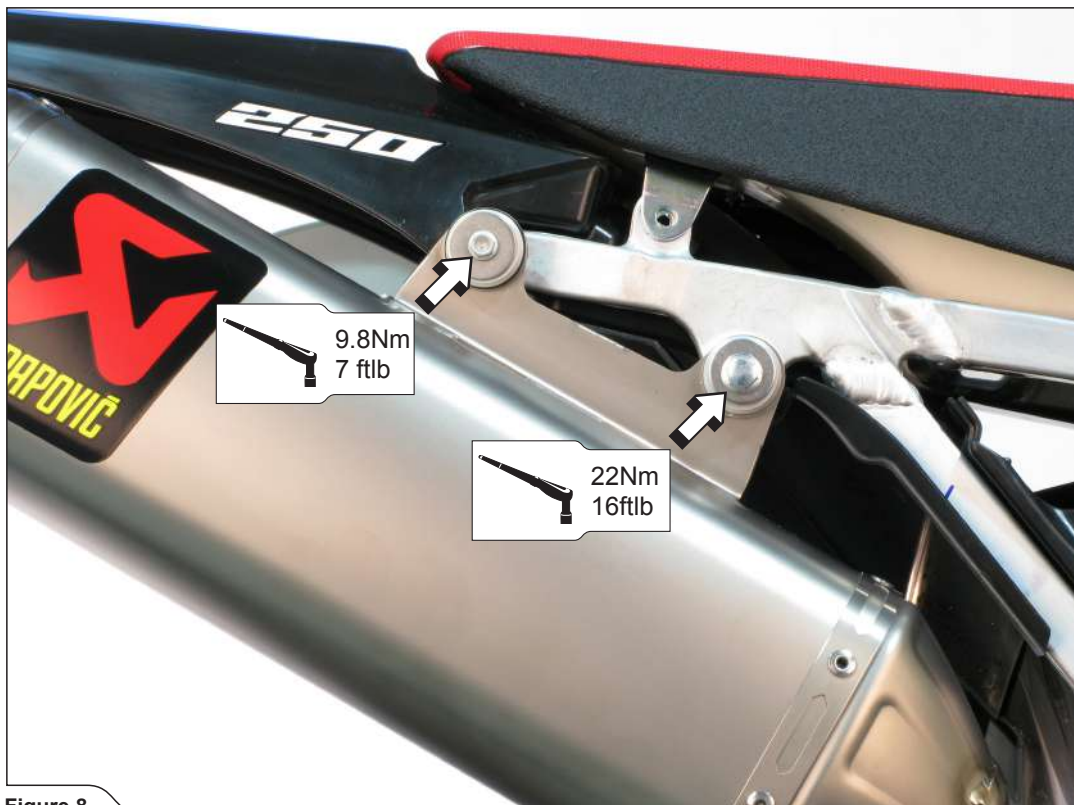

Figure 8
4. Align the muffler in respect to the motorcycle and tighten the muffler's bracket bolts, link pipe's bracket bolt and clamp to the specified torques (Figure 8, 9).